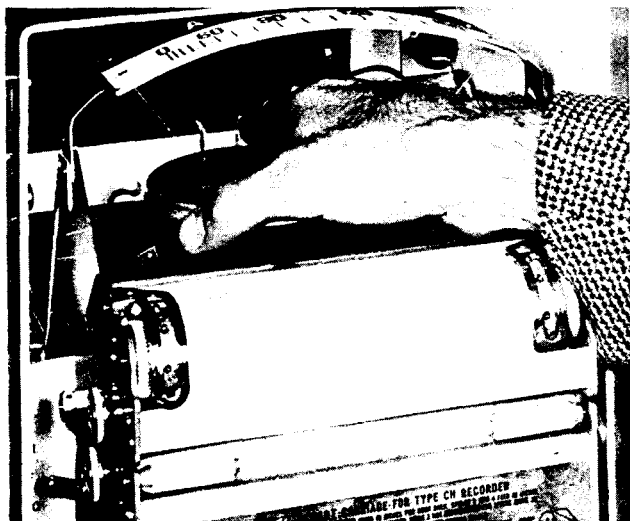

Fig. 7. Installing an inkwell in the recorder
3. Place the new inkwell in the recorder (the side of the inkwell which has the tape or hole should be in the back of the case) and make sure that it is properly seated. (See Fig. 7.)